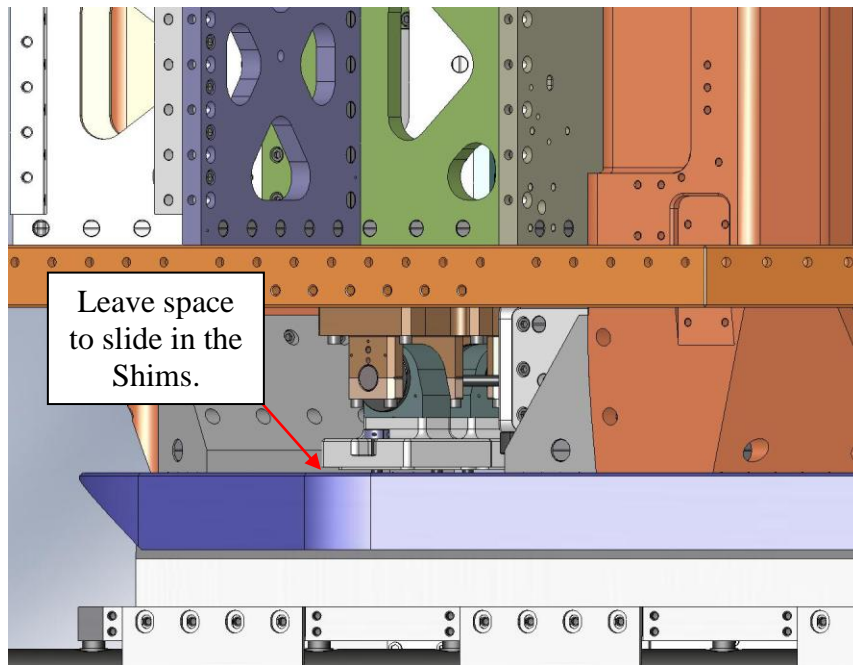

Figure 3.72. Lower Stage 1 close to its final position, but leave enough space between the Lockers and Stage 0 to slip in .125" Shims.
- Stop lowering **Stage 1** when the lowest **Locker Base** (D071140) is about 1/4" above the **Stage 0 Base** (D071001), as shown in Figure 3.72. Try to engage the (8) temporary pins in the **Locker Bases** with the mating holes in the **Stage 0 Base**, as shown in Figure 3.73.